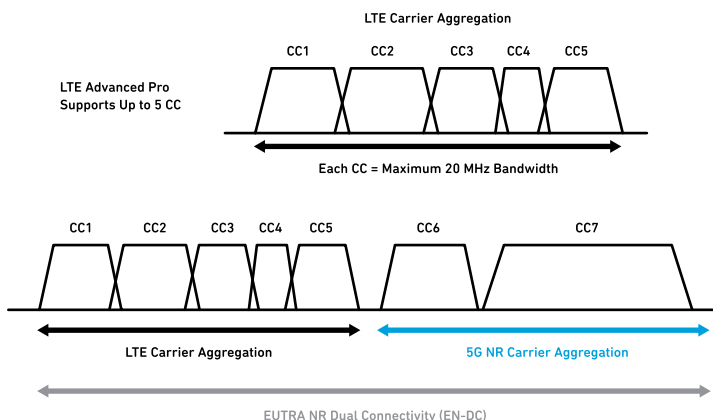

FIGURE 3-6: LTE and 5G NR CA.
4G LTE-Advanced Pro supports up to five CCs. 5G New Radio (NR) CA supports up to 16 contiguous and noncontiguous CCs and can aggregate new 5G bands up to approximately 1 GHz of spectrum — as shown in Figure 3-6. Dual connectivity allows user equipment to simultaneously transmit and receive data. This along with CA increases data capacity of the network.